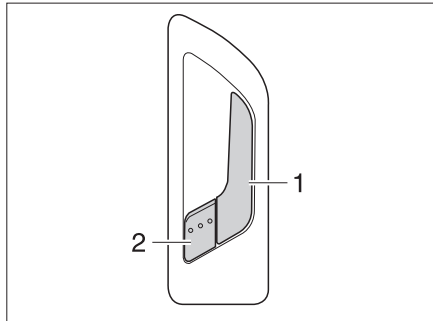

Fig. 24 Door lock of conversion door, inside
- Pull on the handle (Fig. 24,1). The door lock is unlatched. The locking lever (Fig. 24,2) jumps out automatically.
- Press the locking lever (Fig. 24,2).